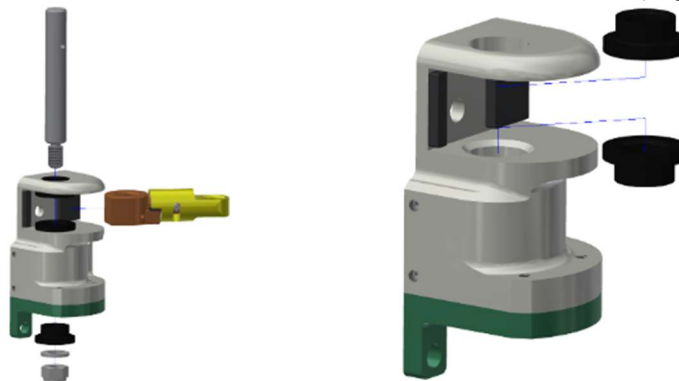

Figure 7-7. Remove the Spring Tension Pin (474-3519)
- 7.2.4 Remove the Spring Tension Pin (474-3519) by removing the M8 X 1.25 Hex Lock Nut, M8 Flat Washer, and Shaft Sleeve (Figure 7-7).